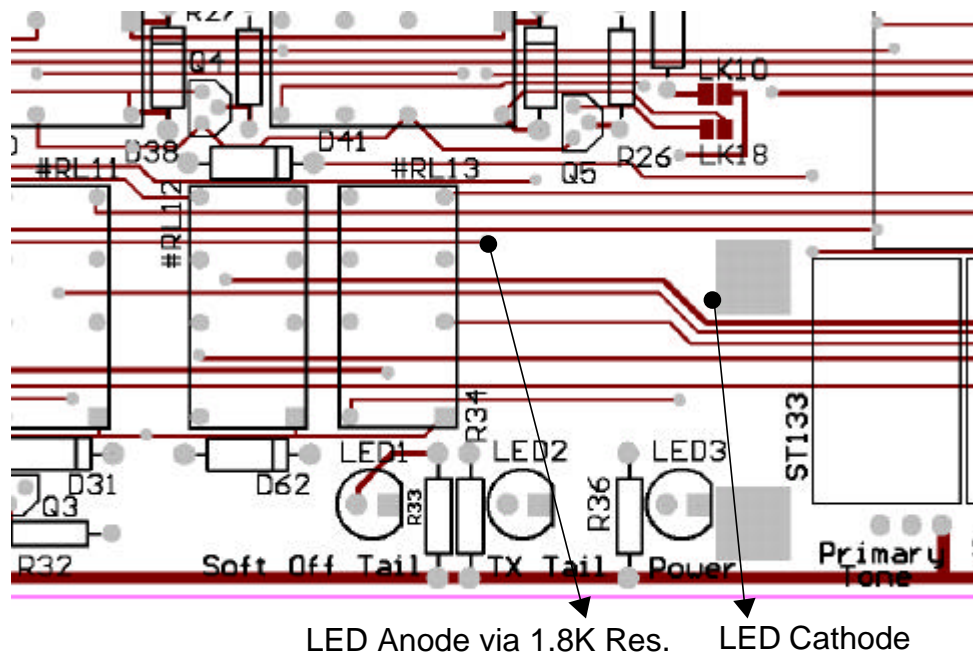

Fig 5.
4. Connect a wire to the cathode of the LED. Insulate the connection with silicon tubing. Connect the other end of the wire to ground on the A800-SIM PCB. Refer to Fig 5.
6. Connect a wire to the other side of the 1.8K resistor. Insulate the connection with silicon tubing. Connect the other end of the wire to the through hole via to the right of #RL13. Refer to Fig 5.